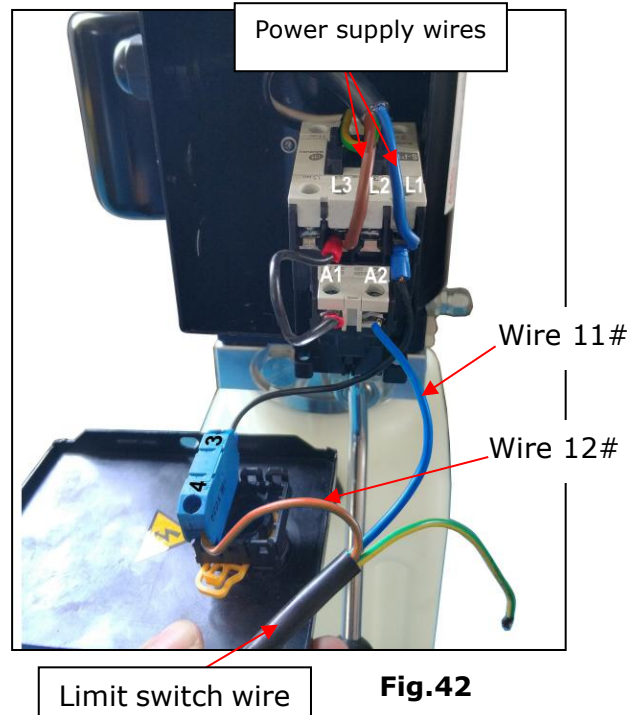
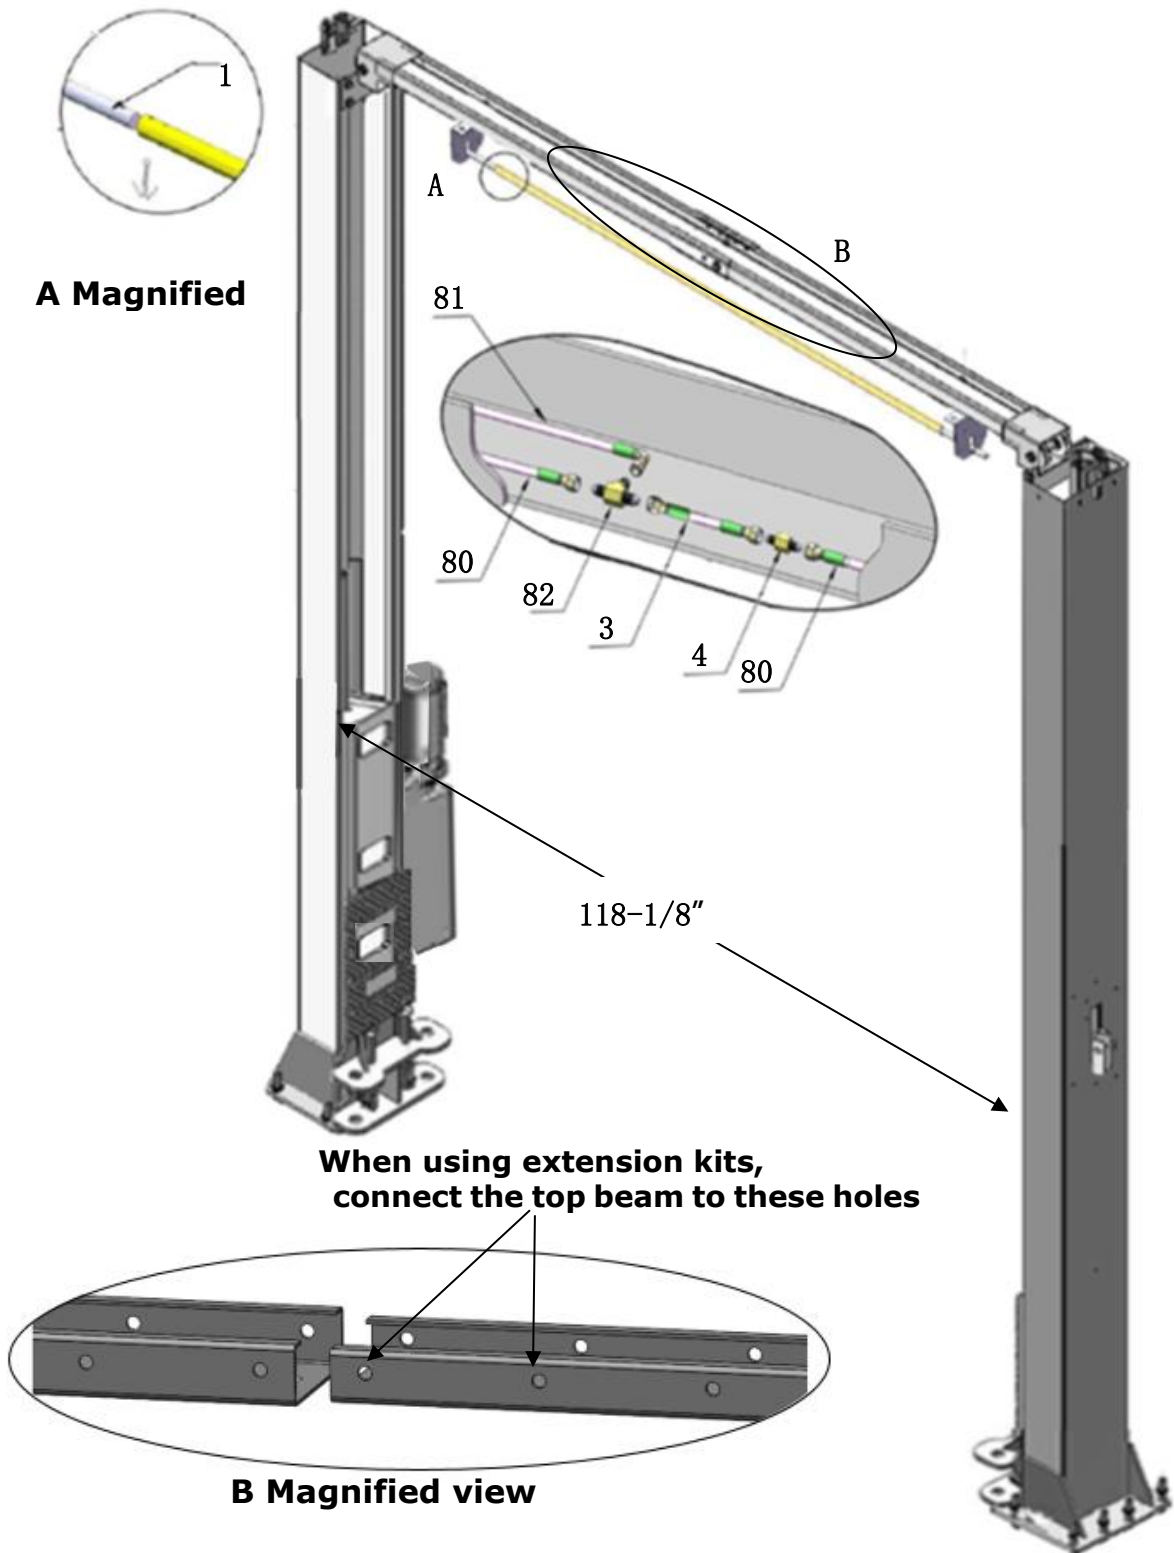

Fig.42
Fig.43
b. Connecting the limit switch: Removing the wire of connecting terminal 4# of control button and A2 of AC contactor firstly (See Fig. 42), then connecting wire 12# (brown wire) of limit switch with terminal 4# of control button and connecting wire 11# (blue wire) with terminals A2 of AC contactor respectively. Connecting the earth wire of limit switch to the earth wire terminal on the motor. (See Fig.43).
1.1. OHX-10: oil hose, top beam installation. (See Fig. 43)**